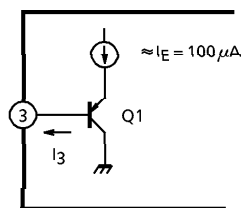

Fig.1
(1) Forward /reverse select switch
① Threshold voltage
Pin③ is coupled to the base of Q1 (PNP-Tr) as shown Fig.1.
③ I₃ (In Fig.1)